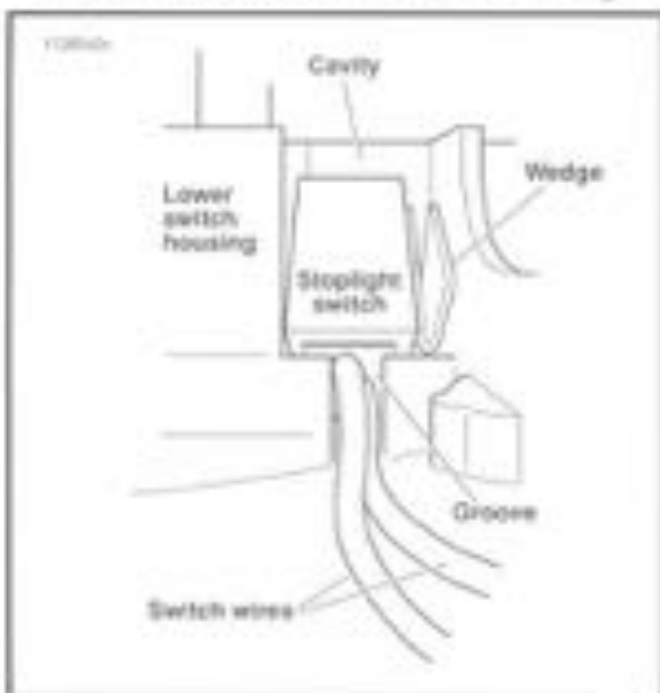

Figure 7-79. Install Stoplight Switch
- See Figure 7-79. Push down on switch so that it bottoms against housing and wires run in groove at base of cavity. With the concave side facing outward, insert wedge between switch and outboard side of switch housing.